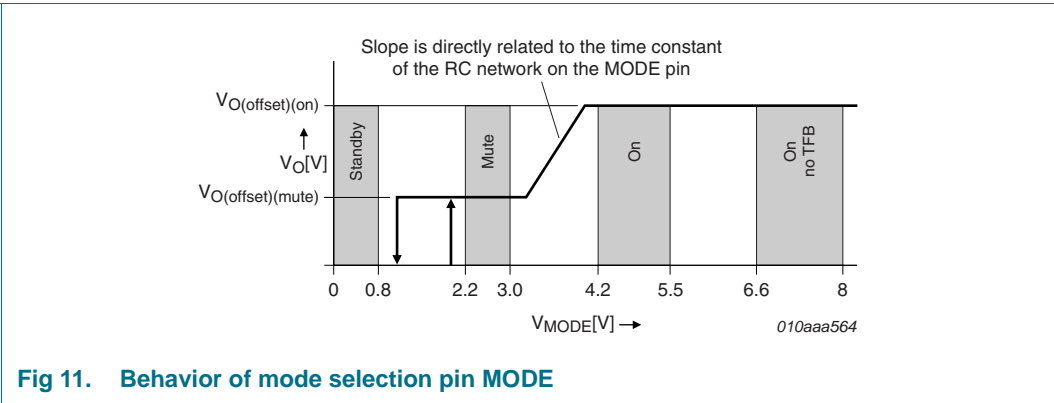

Fig 11. Behavior of mode selection pin MODE
- [5] The transition between Standby and Mute modes has hysteresis, while the slope of the transition between Mute and Operating modes is determined by the time-constant of the RC network on pin MODE; see Figure 11.
To ensure a pop noise-free start-up, an RC time-constant must be applied to pin MODE. The bias-current setting of the VI converter input is directly related to the voltage on pin MODE. In turn the bias-current setting of the VI converters is directly related to the DC output offset voltage. A slow dV/dt on pin MODE results in a slow dV/dt for the DC output offset voltage, ensuring a pop noise-free transition between Mute and Operating modes. A time-constant of 500 ms is sufficient to guarantee pop noise-free start-up; see Figure 4, Figure 5 and Figure 11 for more information.